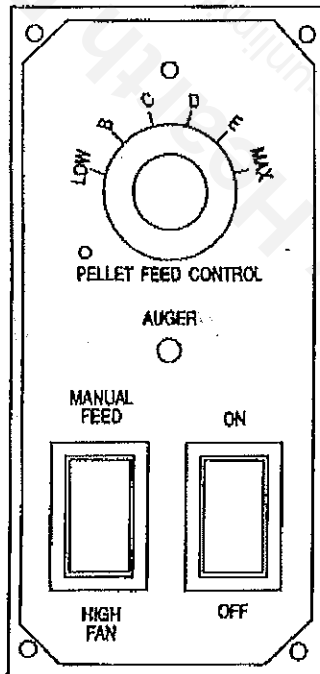

Figure 11
- c. Fill burn pot by hand or by pressing "MANUAL FEED" switch on control panel (see figure 11) fill to about half full. Add approved fire starter (see section 3.92), light and close door. Keep door tightly closed during operation.
(see figure 11)
**b. Oiling** — Blower manufacturers suggest oiling annually. See figure 11 for lubrication points. Use SAE 20W motor oil. Limit to one or two drops.